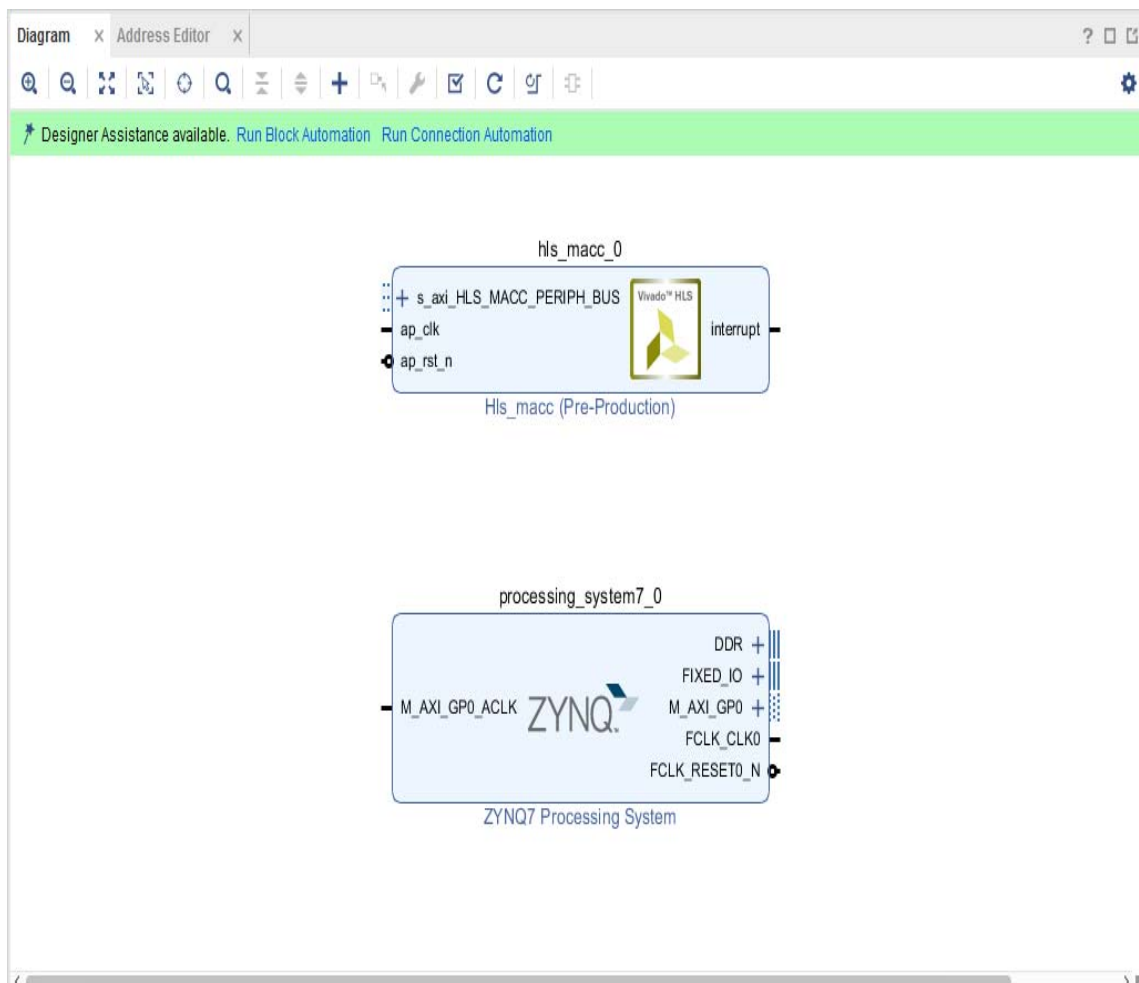

Figure 10-16: Processor and HLS IP
- b. Type `hls` in the Search text entry box and press **Enter** to add it to design (Figure 10-16).